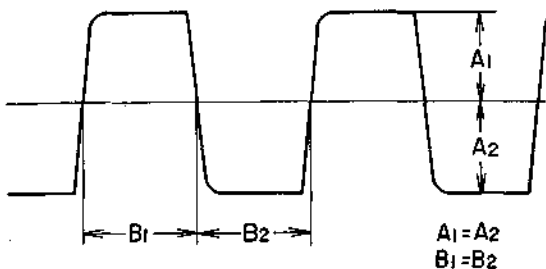

Fig. 3
- Adjust VR-9 and VR-10 so that the Positive and Negative parts of waveform are equal as shown in Fig. 3.